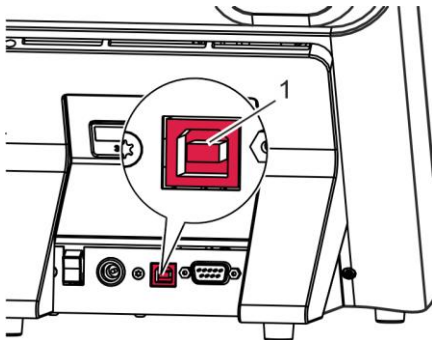

Fig. 19: USB port
2. Insert the square connector (type B) into the USB port (Fig. 19/1) on the device.